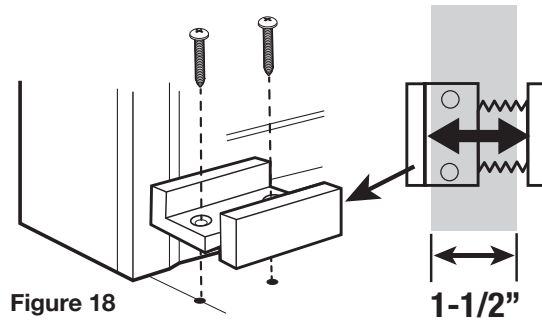

Figure 18
The Bottom Door guide (V) keeps the door from swinging outward away from the wall. To locate the proper installation position in the floor, slide the door into the closed position and mark the outside edge of the door on the floor. Now place the door into the open position and mark the inside edge of the door on the floor. Make sure your guide location is well marked. Make sure that whether the door is in the open or closed position, that the door NEVER leaves the Door guide. This is the proper location for the Door guide. Set the width of the floor guide to 1 1/2". Slide the door out of the way and place it on the floor in between the 2 marks. Pre-drill holes if necessary for your floor type. Using a drill and the screws provided, secure the Door guide to the floor. **See Figure 18.**